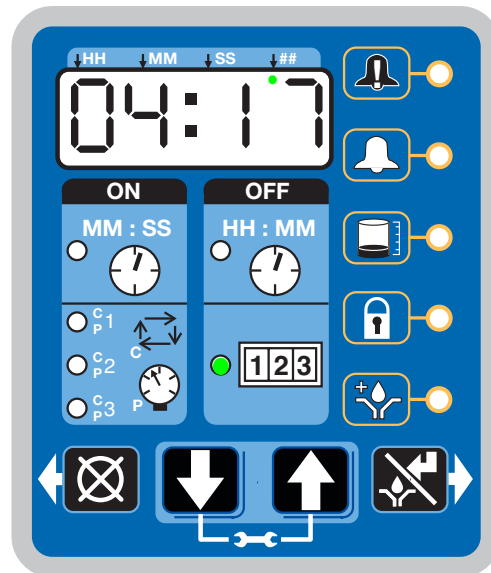

FIG. 35
- The LED next to 1-2-3 illuminates (FIG. 35).
The example shown in FIG. 35 shows 4 hours and 17 minutes remaining until a fault occurs.